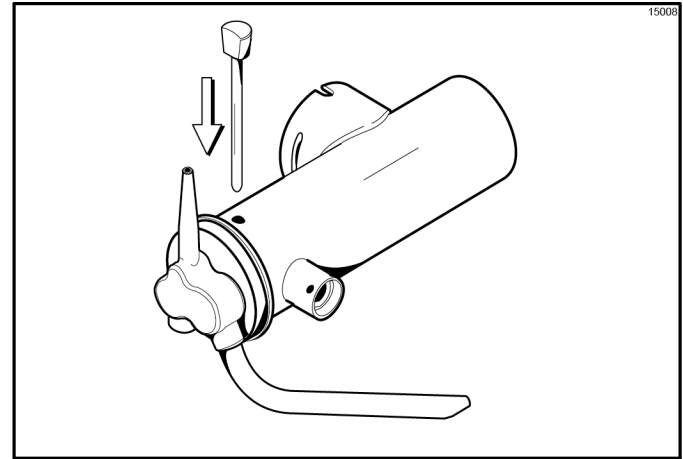

Figure 6-26
- Secure the pump parts in position by sliding the retaining pin through the cross holes located at the bottom of the pump cylinder. (See Figure 6-26.)